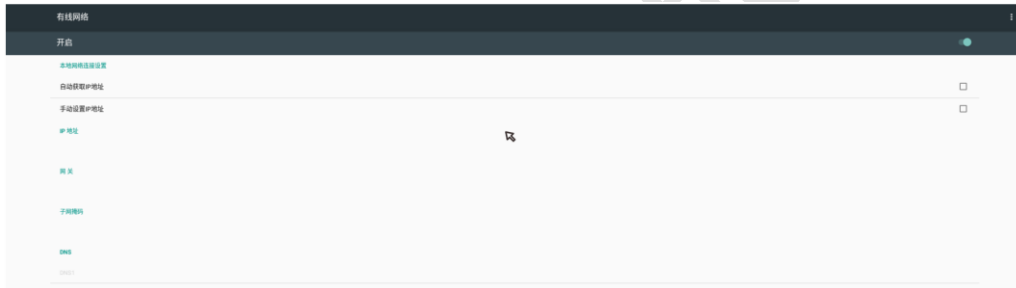

Figure 4-6 Ethernet settings
2. On the upper-right corner of the page, tap the switch to turn on the Ethernet connection function. Ethernet settings also support DHCP and static IP settings, as shown in Figure 4-6.